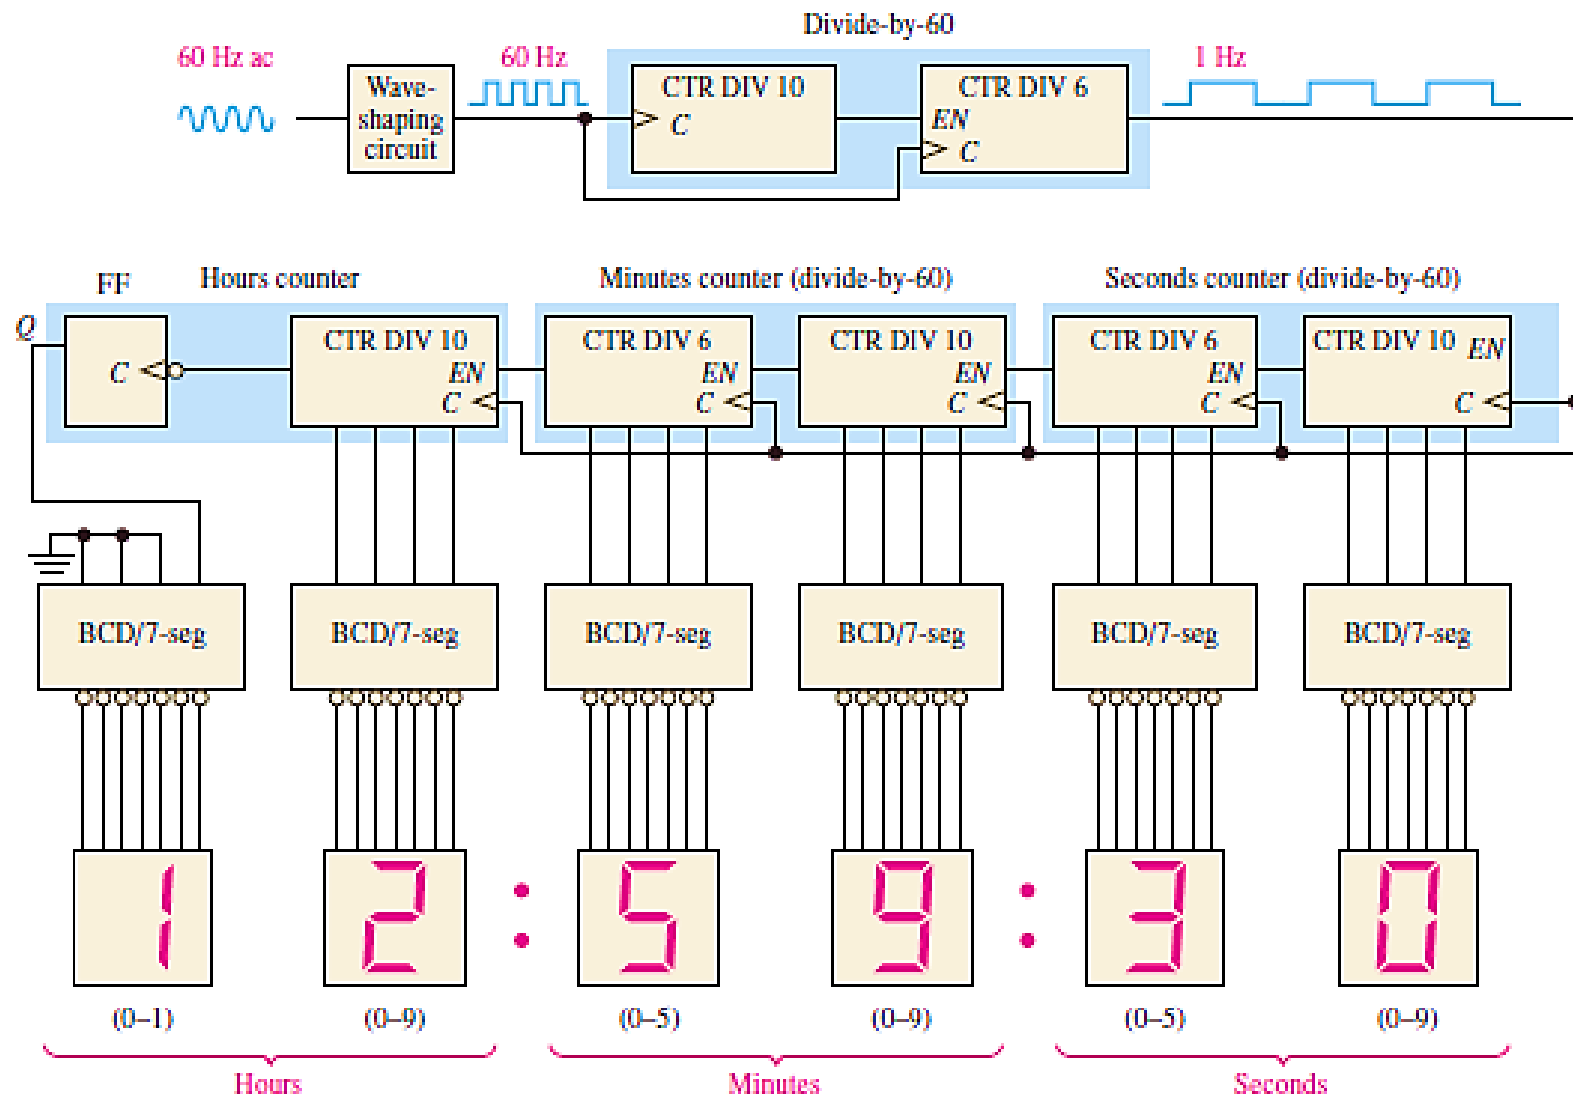

FIGURE 10 Simplified logic diagram for a 12-hour digital clock. Logic details using specific devices are shown in Figures 11 and 12.
- A common example of a counter application is in timekeeping systems. Figure 10 is a simplified logic diagram of a digital clock that displays seconds, minutes, and hours.